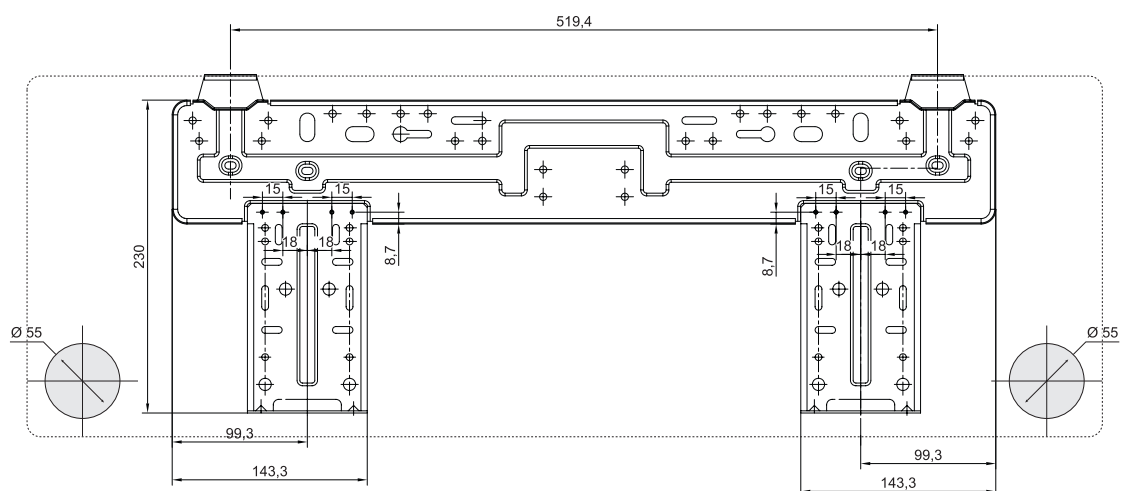

Fig. 9.6 Mounting plate for VAI 6-025 WMNI.
In this case, a suitable hole must be made in the wall behind the unit (see Figures 9.6, 9.7 and 9.8).
- Drill a hole in accordance with the diameter and position as indicated in Figures 9.6, 9.7 and 9.8, ensure the hole is slightly descending to the outside to allow for a fall in the drain line.
In this case holes do not have to be made in the wall since the indoor unit body has knock outs which can be removed to allow the pipes to exit the unit: choose the most convenient one for the desired outlet position (see Figures 9.6, 9.7 and 9.8).